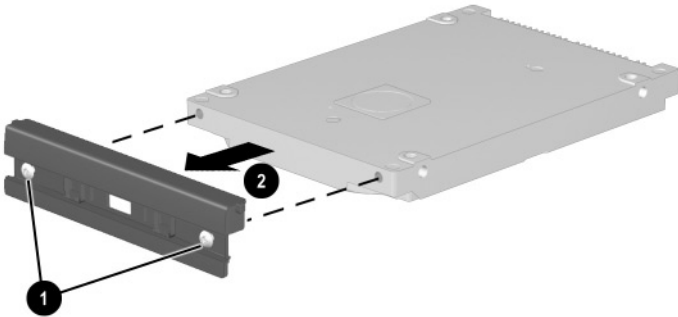

Figure 5-5. Removing the Hard Drive Bezel
6. Loosen the two PM1.5 × 3.5 screws ❶ that secure the hard drive bezel to the hard drive (Figure 5-5).
7. Remove the hard drive bezel from the hard drive ❷.